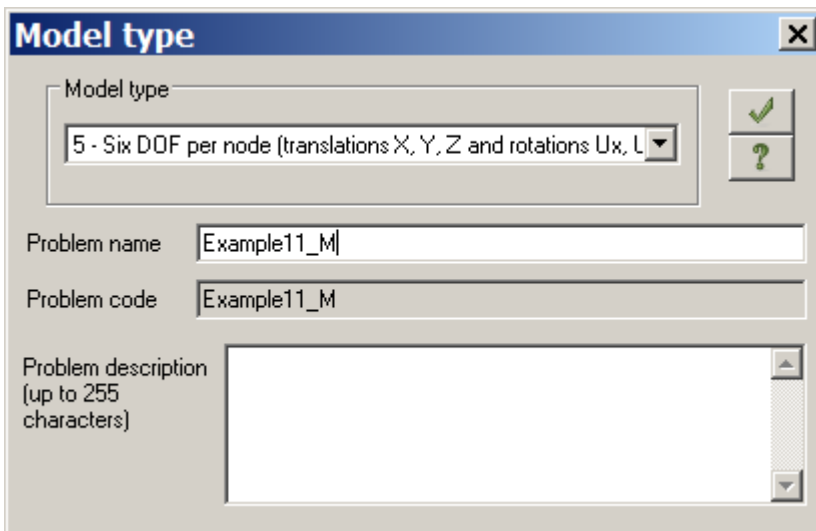

Figure 11.2 **Model type** dialog box
- ⇒ In the **Model type** dialog box (see Fig.11.2), specify the following data: